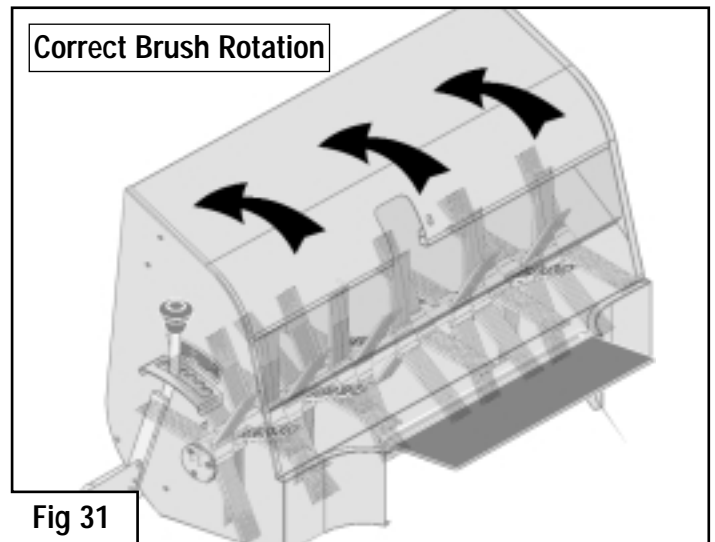

Fig 31
- ✓ That the Collector Belt is not reversed (if it is correct, the brush revolves against the forward direction of the tractor (fig31)).